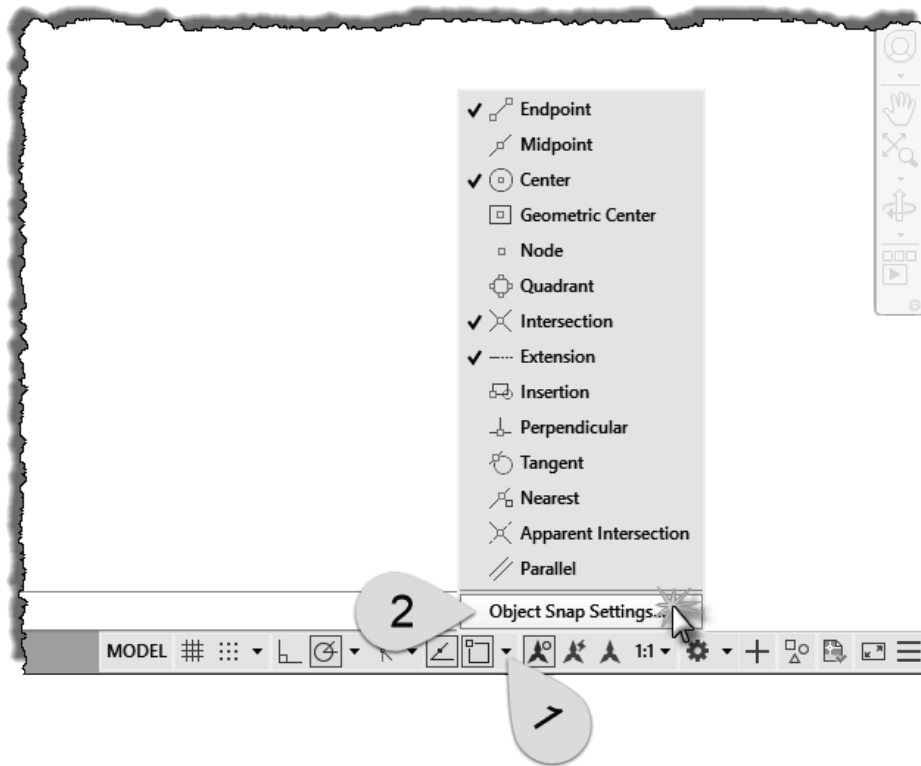

FIGURE 2-2.4 Right-click on the OSNAP button located on the *Status Bar*
3. Click the down-arrow next to the Object Snap icon, on the *Status Bar*, and select **Object Snap Settings** from the pop-up menu (Figure 2-2.4).